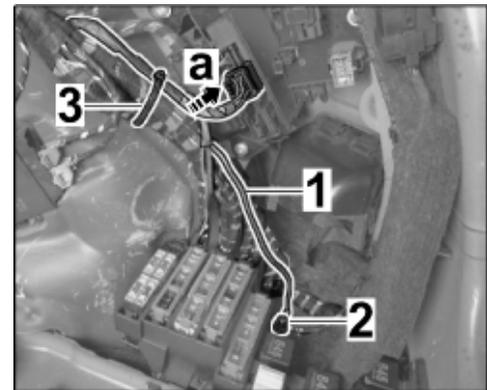

Figure 12
Connect plug connection (⇒ Figure 12 -a-).
Secure control unit wire harness with a tie-wrap (⇒ Figure 12 -3-).
2.6.2 Route cable ring eyelet from ground line for trailer hitch (⇒ Figure 12 -1-) to ground pin 42 (⇒ Figure 12 -2-).